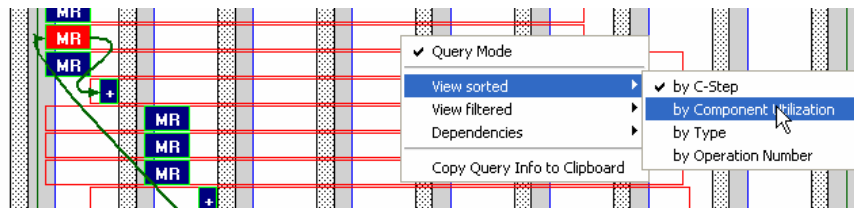

Figure 5 Setting Component Utilization View
- ✓ To better understand why this is, right-click in the schedule window and select “view sorted -> by component utilization” (Figure 5).